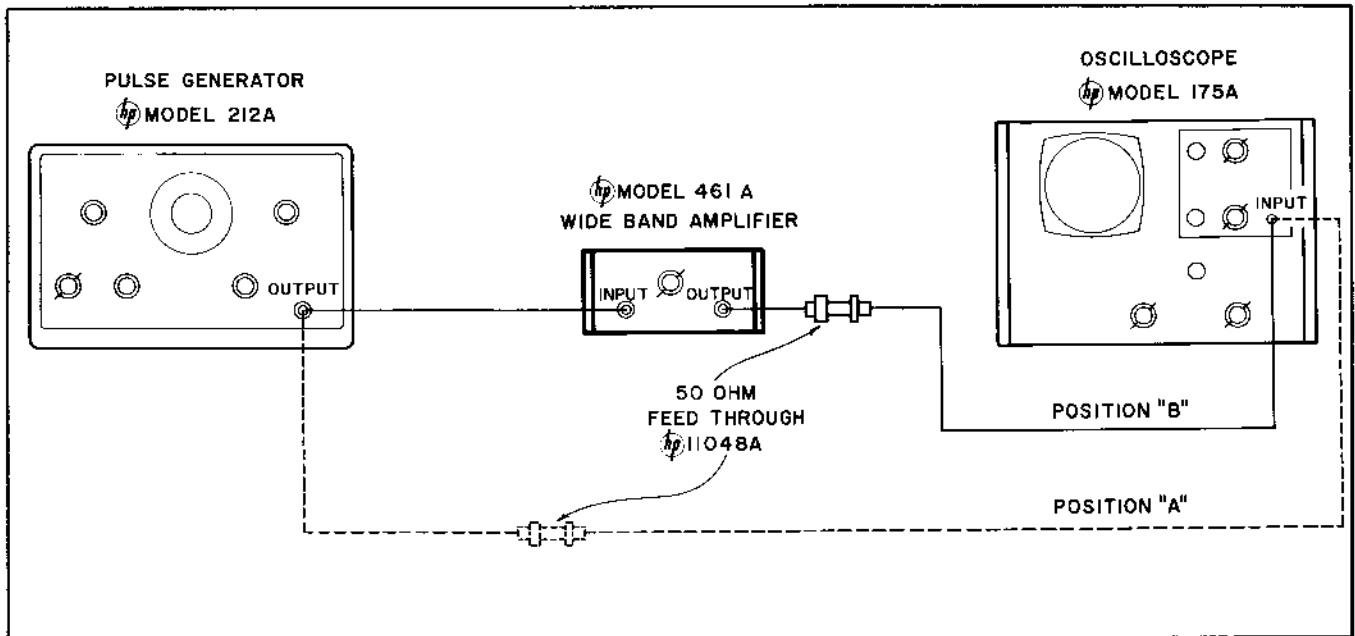

Figure 5-6. Pulse Overload Recovery Check Setup
- a. Connect a pulse generator (-hp- Model 212A) and an oscilloscope as shown in position A in Figure 5-6.
- d. Connect a 50 ohm load termination and an oscilloscope to Model 461A OUTPUT (position B in Figure 5-6).